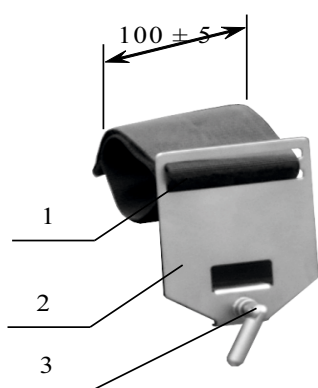

Figure 5. Arm holder.
5. **Arm holder** (arm retainer) (Figure 5). 100 mm wide soft synthetic strap with a clamp and stainless steel fastening element to the table rail, adjustable position along the table panel.